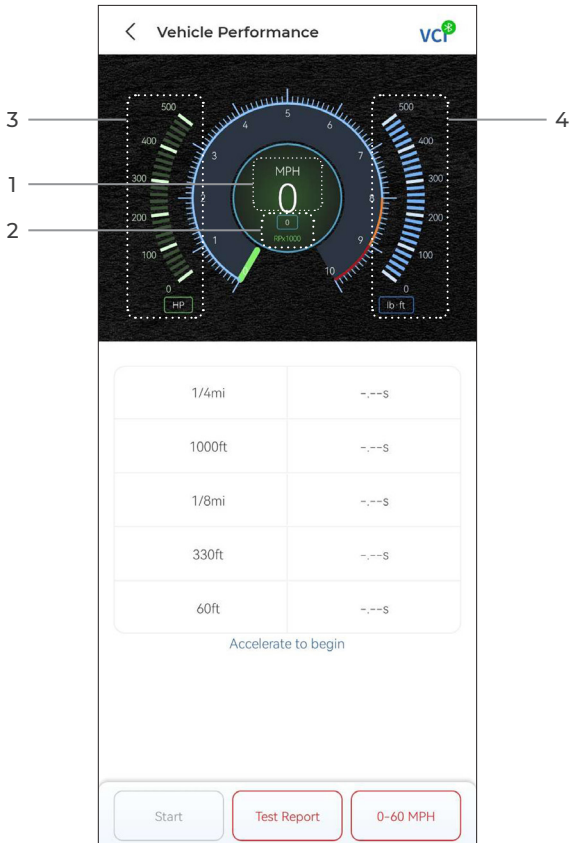
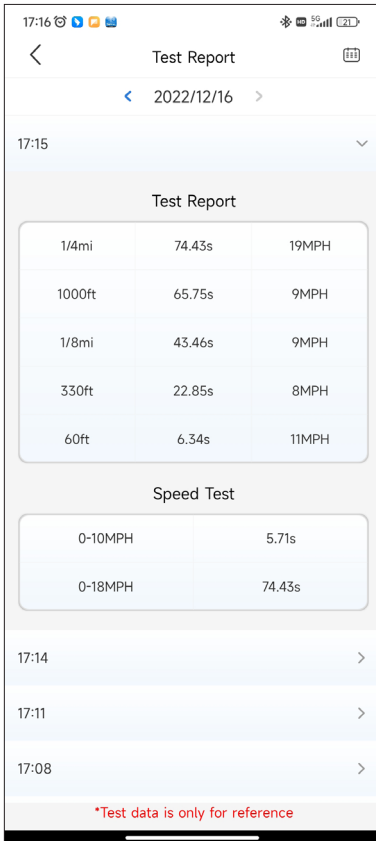

Figure 4-18
Figure 4-21
**1/4 mi Test Results** - record the elapsed time for a vehicle to travel a certain distance (60 ft, 330 ft, 1/8 mi, 1000 ft, 1/4 mi), and the instantaneous speed at each point (see Figure 4-18 and Figure 4-21).
**Speed Test Results** - record the elapsed time for a vehicle to accelerate to a specific speed (see Figure 4-21).